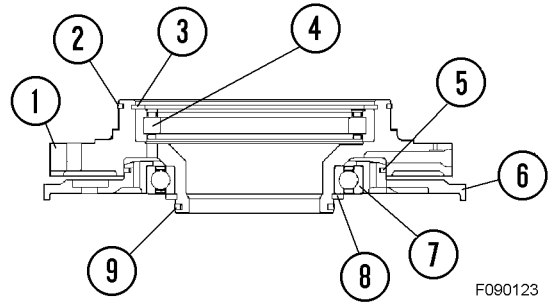

FIGURE 9-18. BEARING CAGE DISASSEMBLY
40. Remove seal rings (2 & 9, Figure 9-18).
41. Remove snap ring (8). Separate bearing cage (1) from cover (6).
42. Remove seal ring (5).
43. Remove bearing (7) from the cover.
44. Remove snap ring (3). Remove bearing (4) from the cage.